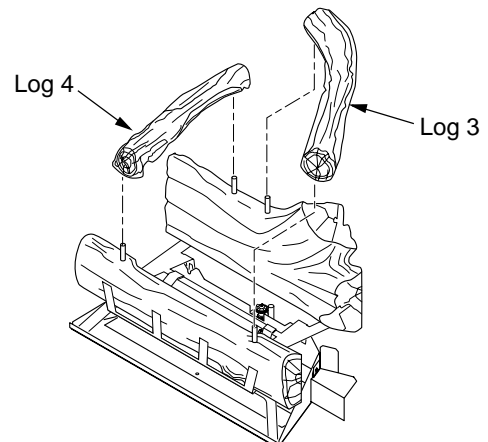

Figure 23 - Installing Logs 3 and 4
3. Insert pegs on back of log 3 into right hole on log 1 and right hole of log 2 (see Figure 23).
4. Insert pegs on back of log 4 into left hole on log 1 and left hole of log 2 (see Figure 23).